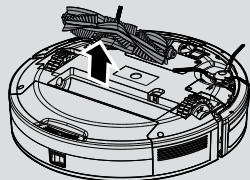

Fig. 13
3. Lift up the agitator by grasping one end of agitator. **[Fig. 13]**